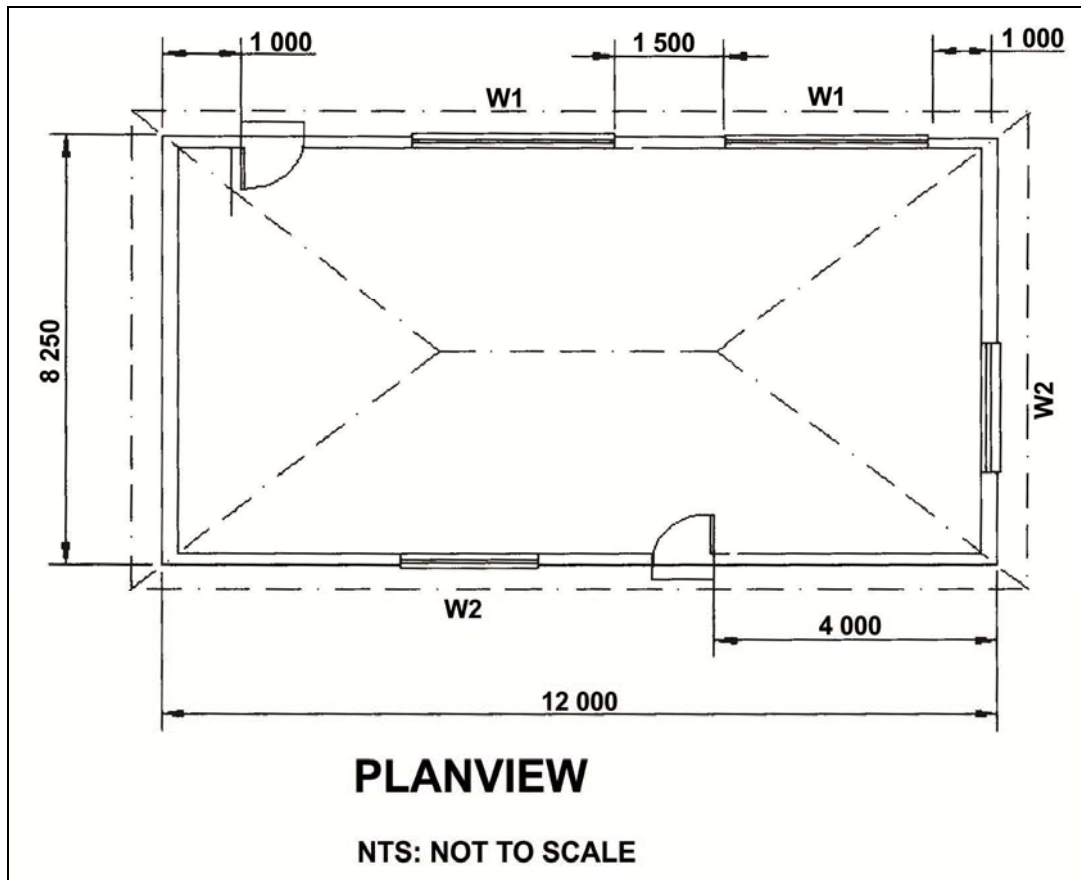

Figure 6.2
6.2 FIGURE 6.2 below shows a line diagram of an incomplete floor plan of a single bedroom granny flat. (Use your own discretion where details have been omitted.)